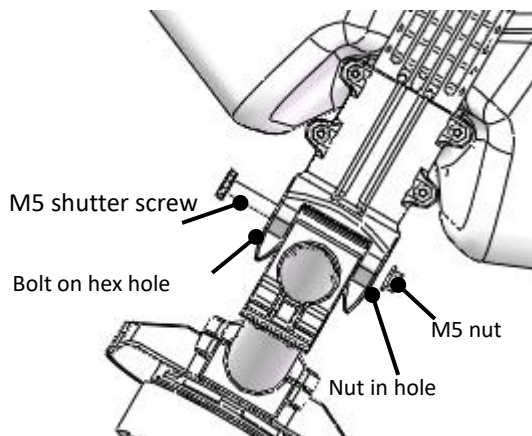

Figure 10
- 4) Install the M5*49 plug screw from the hexagon side of the 6mm hole on fuselage arm joint, see figure 10 .